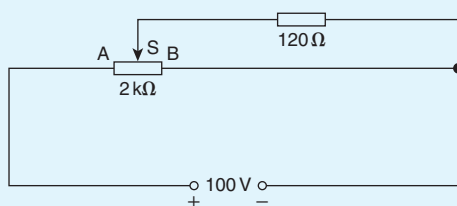

Figure 5.47
4. For the circuit shown in Fig. 5.47, the slider S is set at halfway. Calculate the voltage drop across the $120\ \Omega$ load.